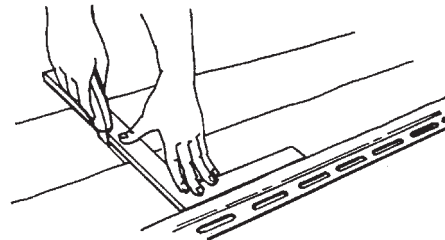

Figure 23.
- With a utility knife or scoring tool, score the vinyl face up with medium pressure and snap it in half. It is not necessary to cut all the way through the vinyl (Fig. 23).